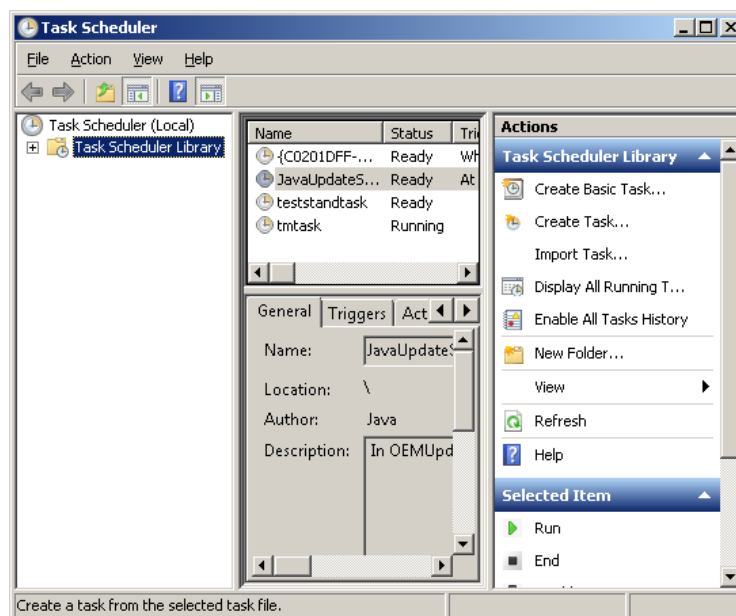

Figure 2-7: Task Scheduler Window
2. Select the **Import Task** option from *Actions* panel, as shown in Figure 2-7.